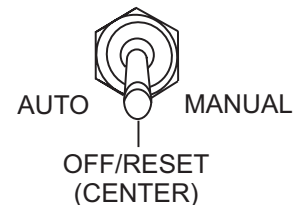

Figure 101. Auto Start/Stop Switch (Off/Reset Position)
- Place the Auto Start/Stop Switch (Figure 101) in the "Off/Reset" position.